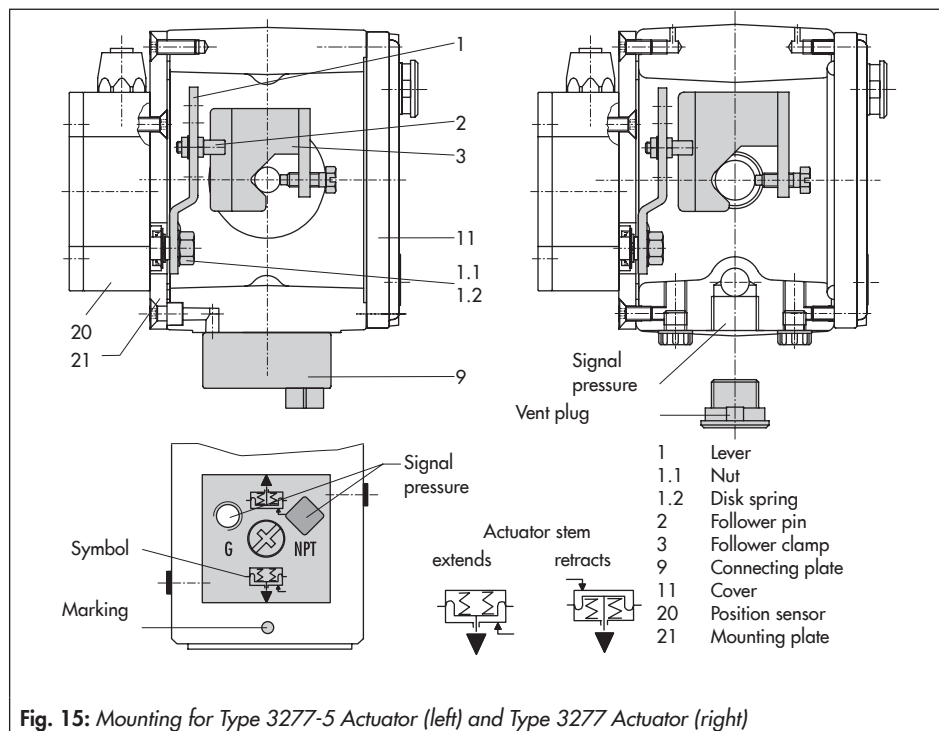

Fig. 15: Mounting for Type 3277-5 Actuator (left) and Type 3277 Actuator (right)
#### Type 3277-5 Actuator with 120 cm2 (Fig. 15)
The signal pressure from the positioner is routed over the signal pressure connection of the connecting plate (9, Fig. 15 left) to the actuator diaphragm chamber. To proceed, first screw the connecting plate (9) included in the accessories onto the actuator yoke.
- Turn the connecting plate (9) so that the correct symbol for the fail-safe action "actuator stem extends" or "actuator stem
retracts" is aligned with the marking (Fig. 15, below).